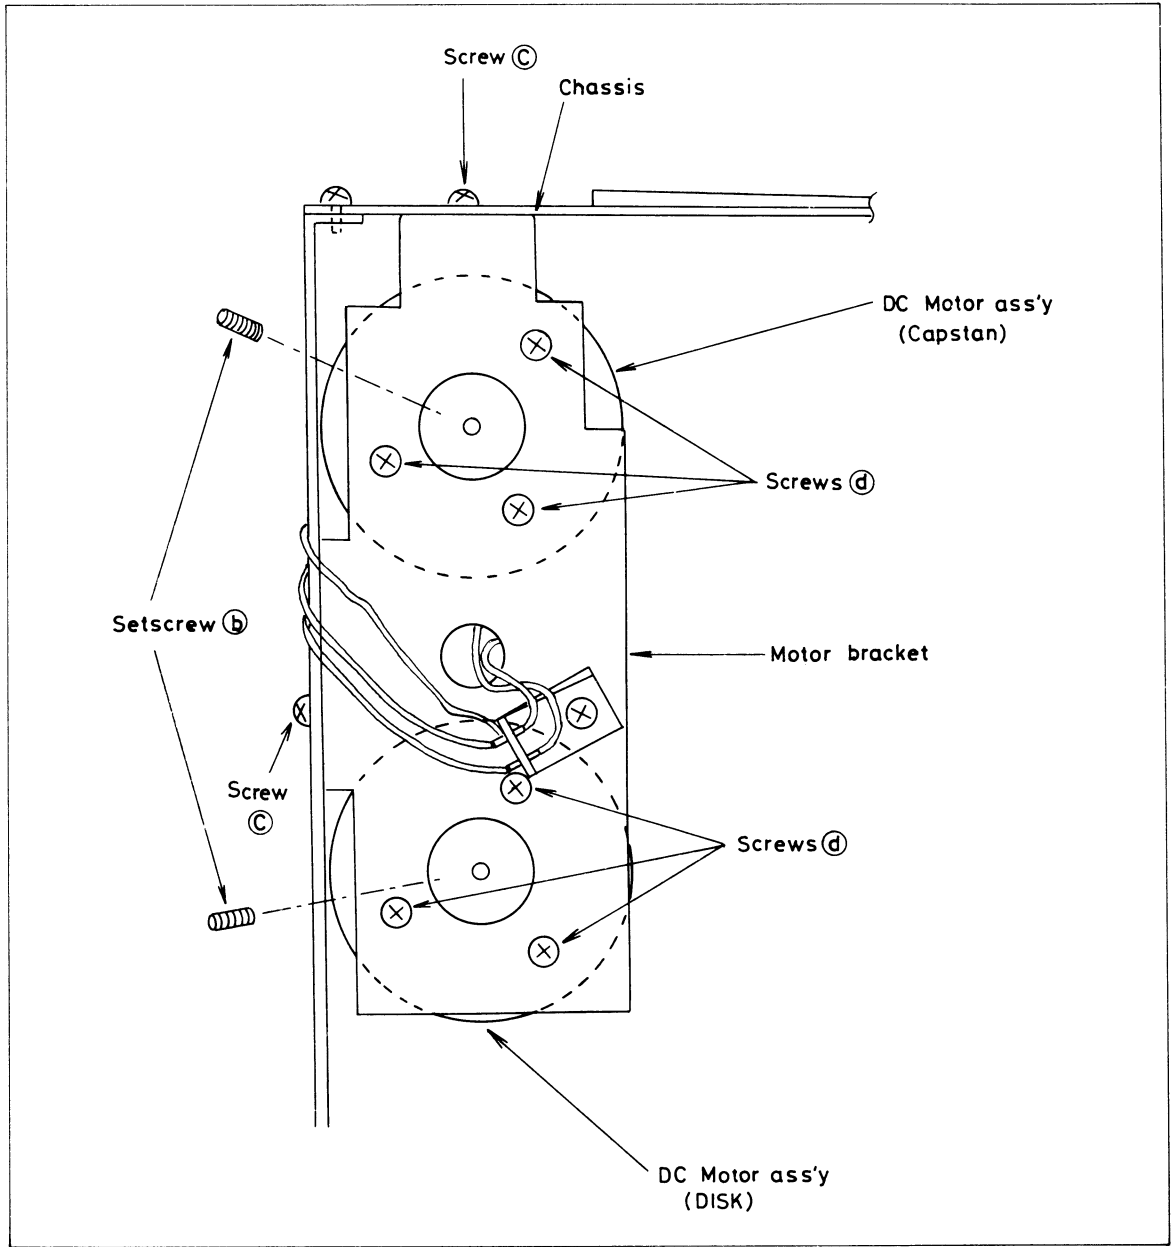

Fig. 6-7.
6. Remove the two screws (c) that locks motor bracket. Refer to Fig. 6-7.